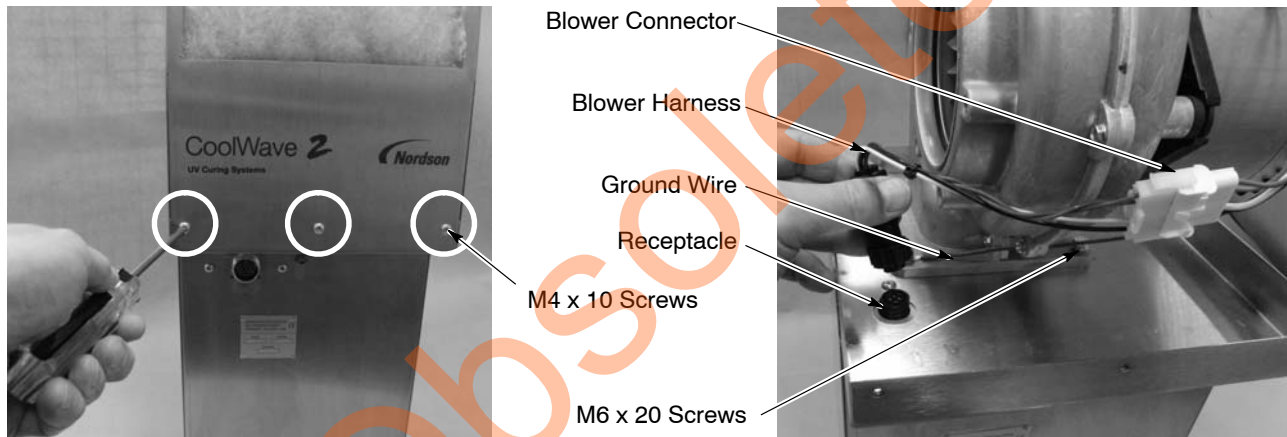

Figure 6-11 Removing Blower Cover
1. See Figure 6-11. Remove the blower cover by removing the 6 M4 x 10 Philips head screws (3 front and 3 rear). Set the blower cover aside.